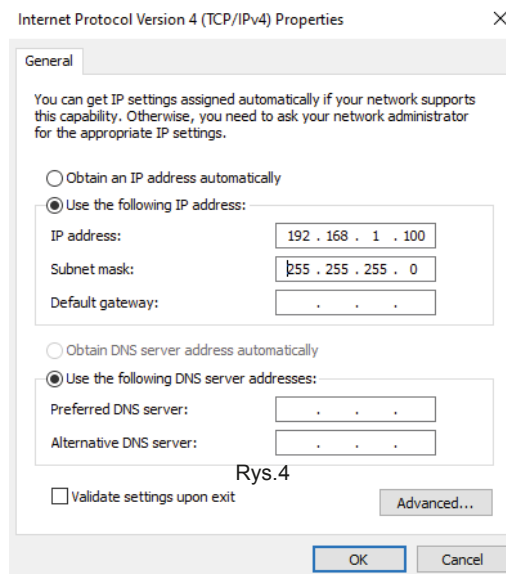
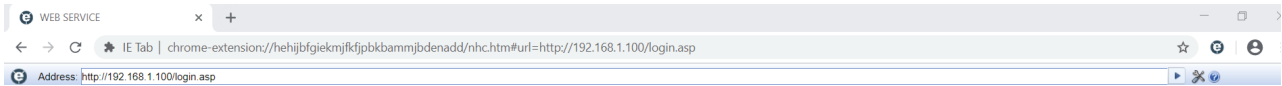

Fig.4
Fig.6
4.5. Select „Use the following IP address” in the opened window, enter the IP address and Subnet Mask as shown in Fig.4 and confirm your selection with OK button.
To correctly log in to the device the web browser must have „ActiveX” controls active (available only in the Internet Explorer as a standard). Chrome browser requires the installation of „IE Tab” plug-in (Fig.4) and connection with the device via this plug-in (Fig.6).